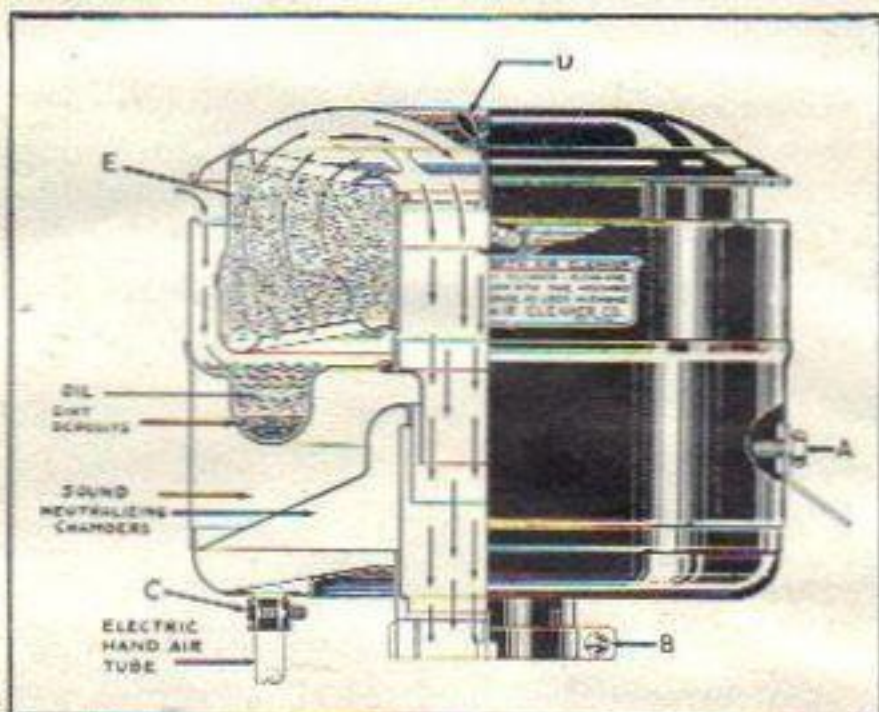

Figure 15
1. Remove air cleaner from carburetor by removing body brace bolt (A), Figure 15, and cleaner body clamp screw (B) at carburetor air horn. On Electric Hand equipped cars also loosen Electric Hand air inlet pipe clamp screw (C).
2. Remove wing nut (D) and lift out filter unit (E) and, if necessary, wash in kerosene and blow dry.
5. Check filter unit gasket, reinstall filter unit (E) and install wing nut (D).